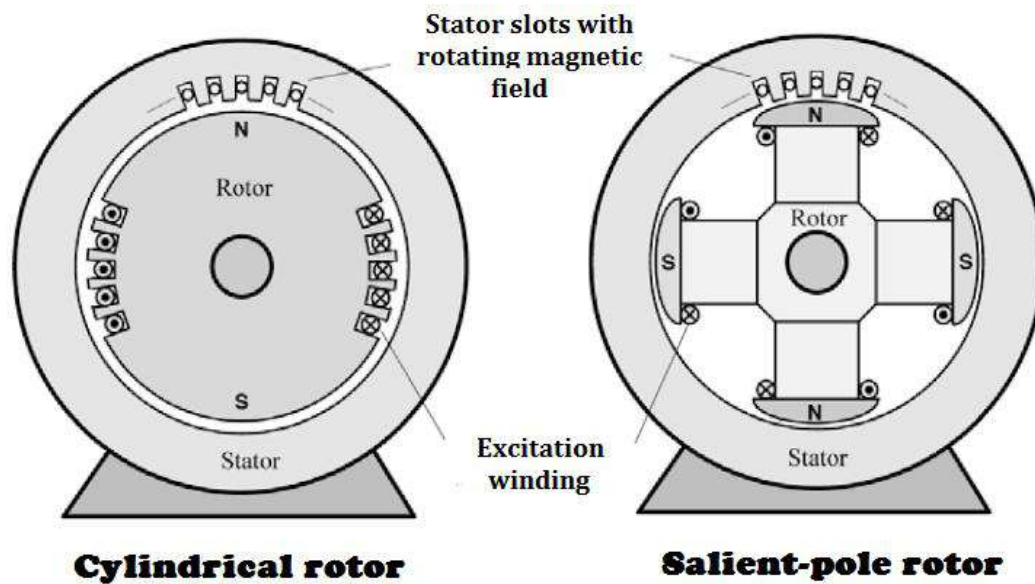

Figure.5.4. Construction of rotors of an alternator.
5.3.3. Rotor. Rotors used in alternators are salient-pole and smooth-cylindrical type. The construction detail of an alternator stator frame is as shown in the figure 5.4.